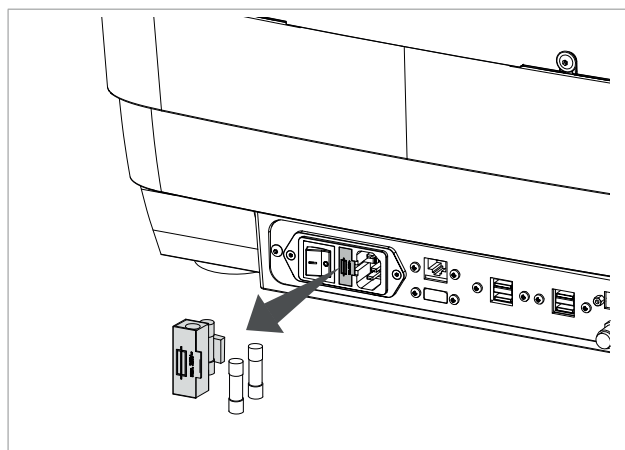

Fig. 146
- 2) Use a flat screwdriver to extract the fuse box from the socket (Fig. 146), remove the fuse and replace, if necessary.